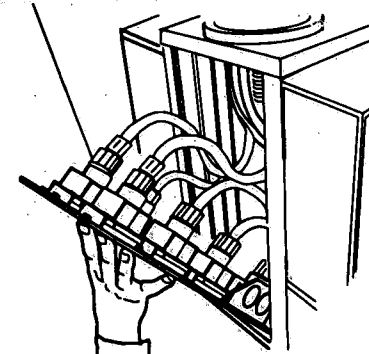

Figure 6-11. Guide Lines into Support Head Assembly Cavity
2. Raise the top of the gas outlet assembly approximately 45 degrees from the horizontal and carefully guide the gas lines into the support head assembly cavity (see Figure 6-11). Ensure gas lines do not crimp or kink.